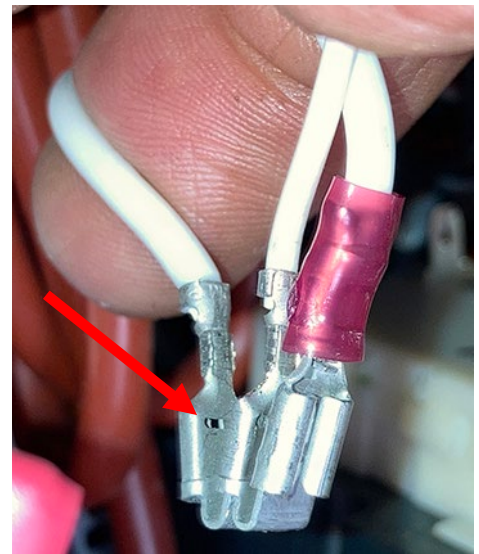

Figure 34
- p. Connect the white wire from the harness in step E to the butterfly terminal (see Figure 34).